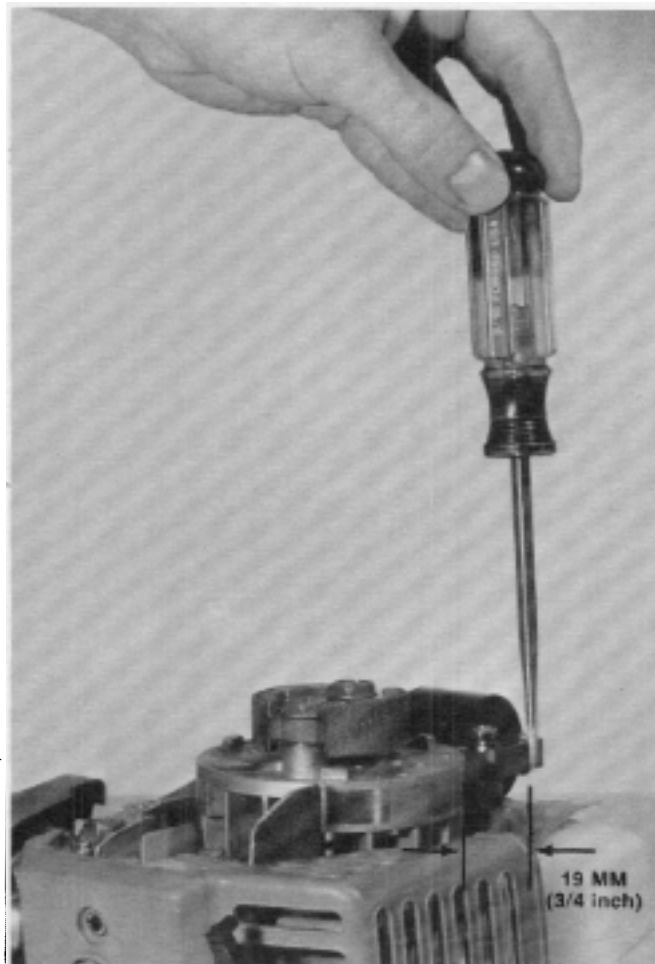

Figure 75
3. Check the flywheel magnets using the screwdriver method: Hold the handle end of a flat bladed screwdriver between your thumb and forefinger. Bring the tip of the screwdriver to within $3/4$ " to 1" of the magnet to be tested. The screwdriver should be drawn to the flywheel. If not, the flywheel should be replaced. Repeat this step for each magnet on the flywheel. See Figure 75.